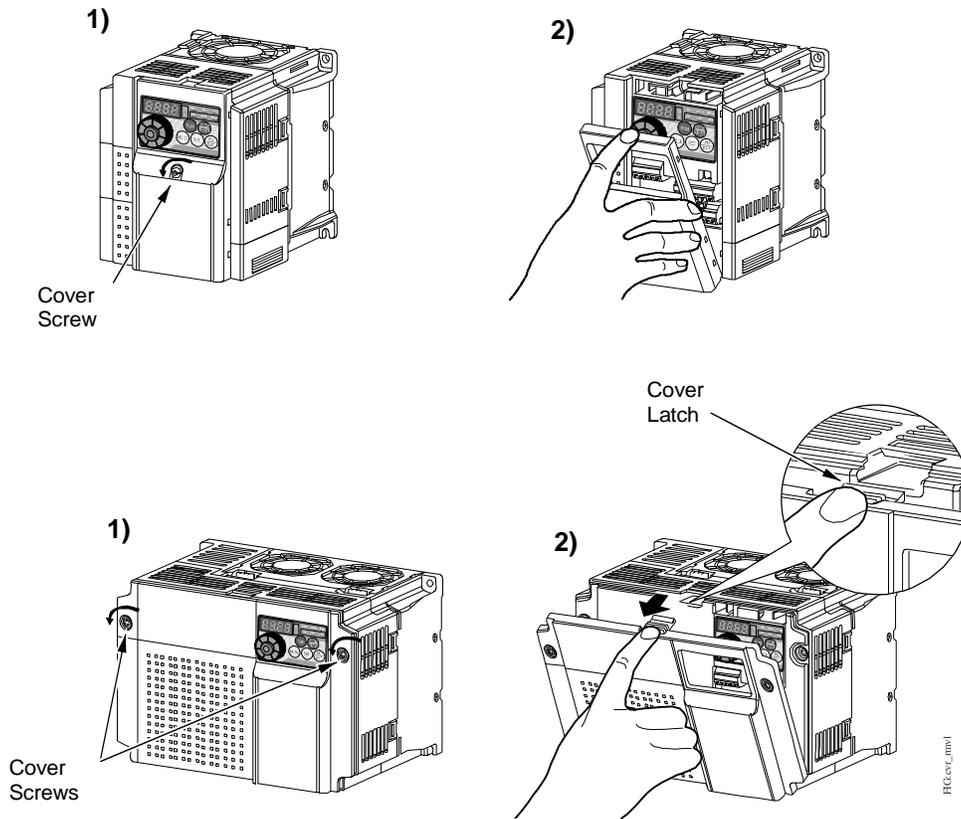

Figure 5: Loosen the Cover Screws and Remove the Front Cover
1. Loosen the screws on the front cover and remove the cover (Figure 5).